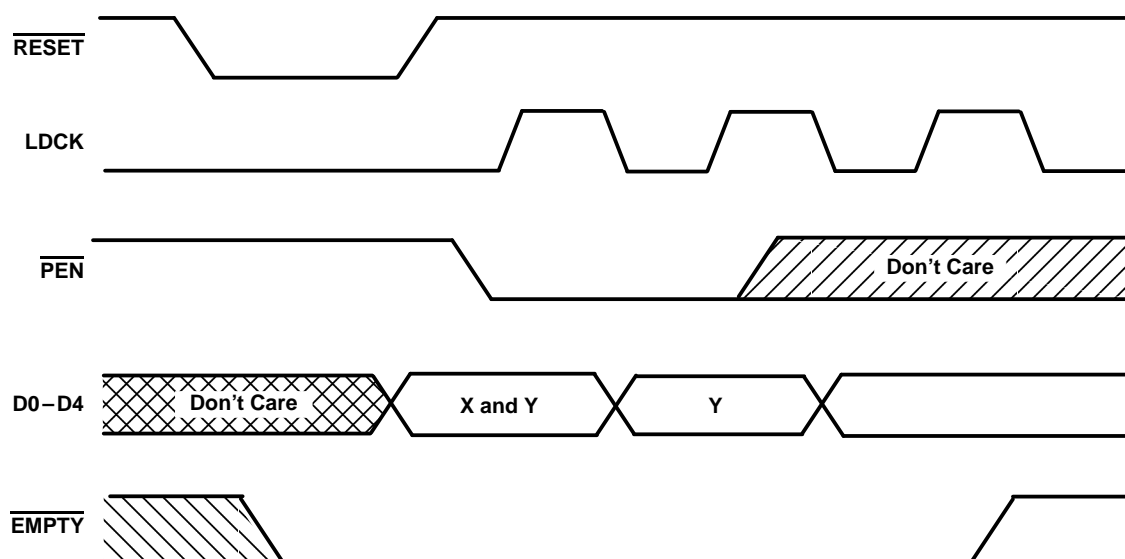

Figure 1. Programming X and Y Separately
To program the offset values, program enable ( $\overline{\text{PEN}}$ ) can be brought low after reset only when LDCK is low. On the following low-to-high transition of LDCK, the binary value on D0–D4 is stored as the almost-empty offset value (X) and the almost-full offset value (Y). Holding  $\overline{\text{PEN}}$  low for another low-to-high transition of LDCK reprograms Y to the binary value on D0–D4 at the time of the second LDCK low-to-high transition. Writes to the FIFO memory are disabled while the offsets are programmed. A maximum value of 31 can be programmed for either X or Y (see Figure 1). To use the default values of X = Y = 8,  $\overline{\text{PEN}}$  must be held high.